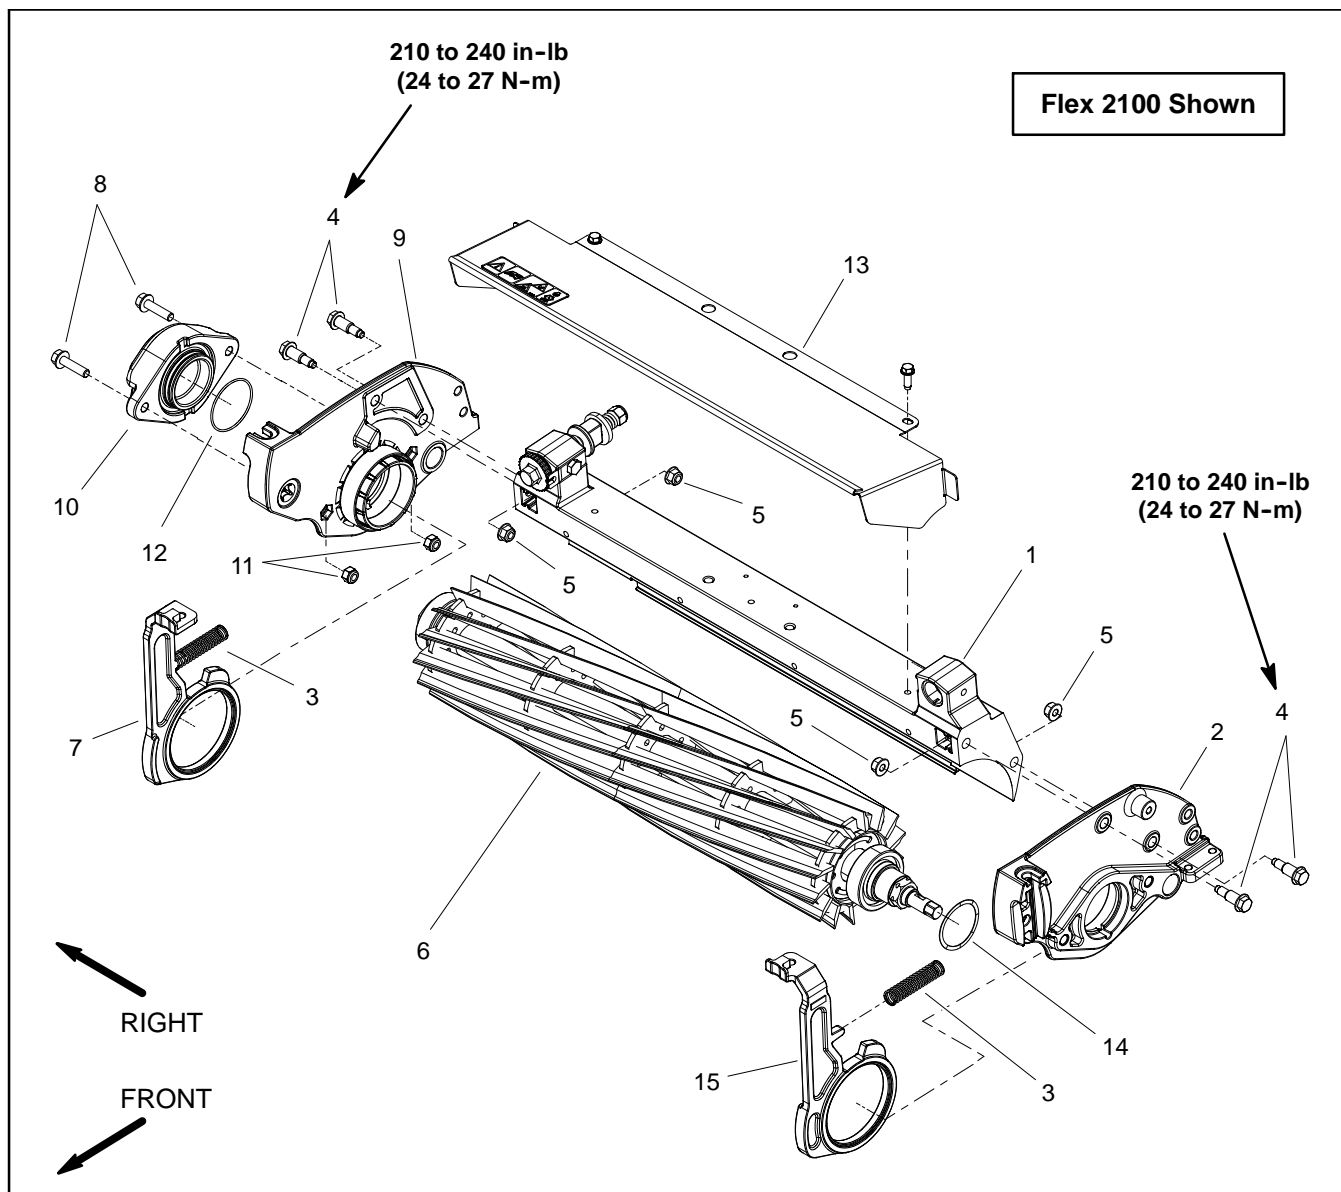

Figure 33
NOTE: Flex 2100 cutting units use shoulder bolts (item 4) and flange nuts (item 5) to secure the side plates to the crossmember as shown in Figure 33. On Flex 1800 cutting units, square nuts are used instead of flange nuts. Cutting unit service procedures are the same on both models.
Cutting Reel Assembly Removal (Fig. 33)
Cutting Reel Assembly Installation (Fig. 33)